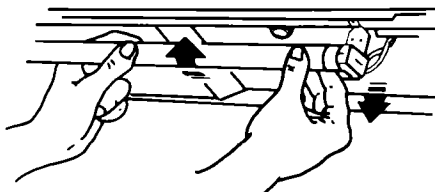

Figure 29
- A. Place lamp prongs into each socket and roll the lamp toward the front of the oven until it stops. (See figure 29).